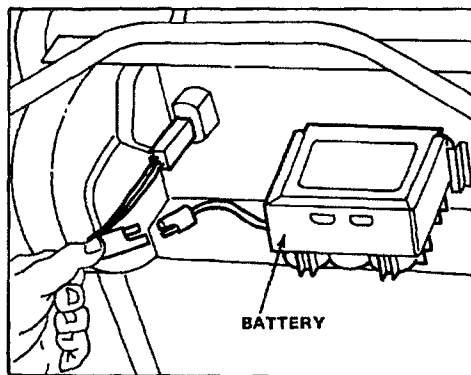

Figure 3
4. Charge battery (model 20624): refer to Charging Battery, page 12. Slide battery, decal side up, between slots on back of control panel and connect wires (Fig. 3). Insert key into switch when ready to start engine.